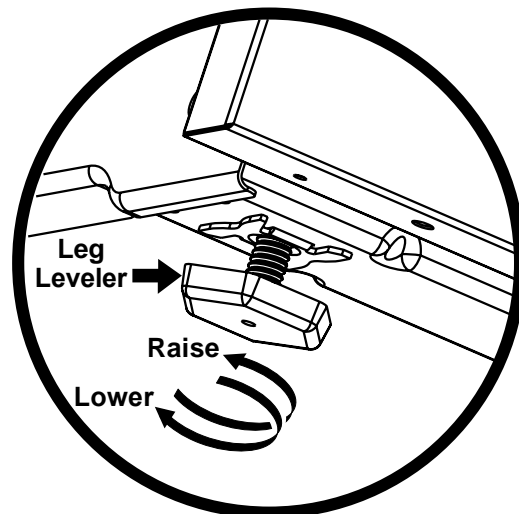
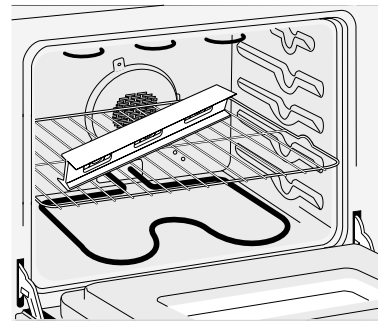

Figure 13
Figure 17
3. Check if the range is level by installing an oven rack in the center of the oven and placing a level on the rack (Figure 17).
2. Place a level on the rack (see Figure 17). Take 2 readings with the level placed diagonally in one direction and then the other. Level the range, if necessary, by adjusting the 4 leg levelers with a wrench (see Figure 13).